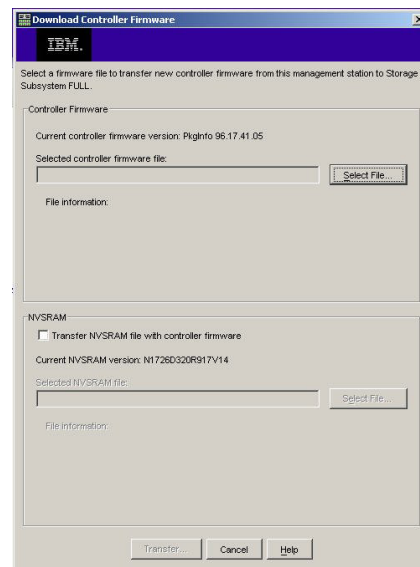

Figure 21. Download Controller Firmware window
2. Click **Support** → **Download firmware** → **Download Controller Firmware**. The Download Controller Firmware window opens, as shown in Figure 21.